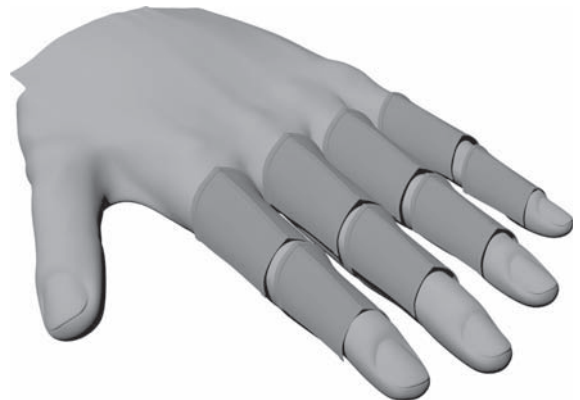

Figure 10.15B Hand with armor.
19. Unhide the hand model and clone/scale/rotate the piece of armor to cover all of the fingers. You're done! While you are at it, take a look at the hand model, particularly the fingernails, another good example of using hard- and soft-modeling techniques in unison (Figure 10.15B).